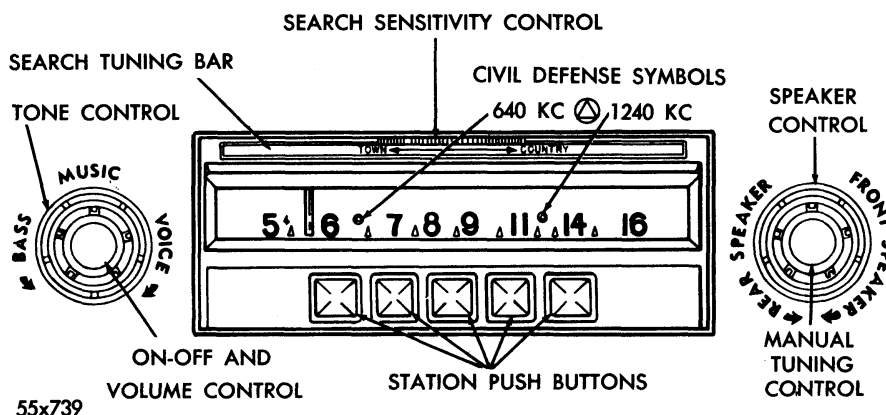

Fig. 3—Operating Instructions (Model 902)
2. OPERATING RADIO (Fig. 3) (Model 902)
In the event of a national emergency when broadcast stations must leave the air, civil defense information will be broadcast by the CONELRAD plan. To hear such information, tune the car radio to 640 or 1240 KC indicated by the civil defense symbol on the dial. (Figs. 3 and 4.)